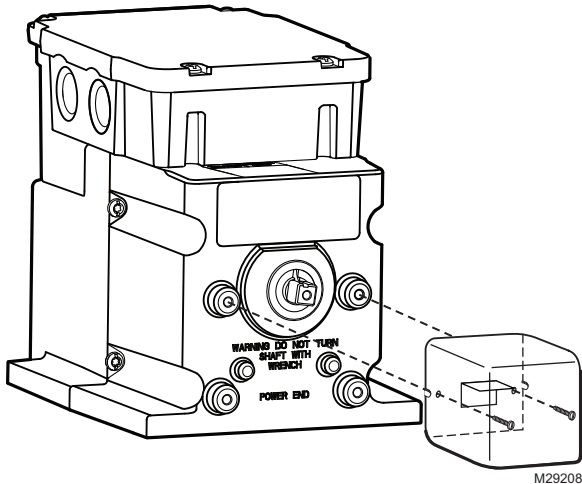

Fig. 1. Mounting the Q181 on M9185 or M9186 style modutrol motor, or any motor with bosses.
Mounts directly on master motor. Refer to Fig. 1 and 2.
3. Mount the Q181 on the motor. The two mounting holes in the Q181 line up with the two mounting holes on the end of the motor, horizontally in line with the shaft. Mounting screws may be held in the back of the case with the fiber washers during installation. See Fig. 1 and 2.